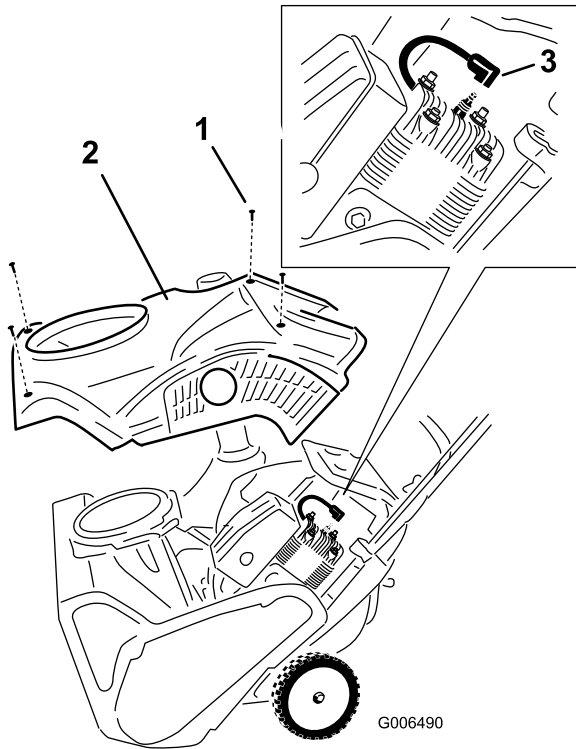

**Figure 24**
- Remove the discharge chute, the discharge chute handle, and the chute seal by removing the 3 large screws and one small screw (Figure 24).
- Remove the 4 screws that secure the shroud (Figure 24).